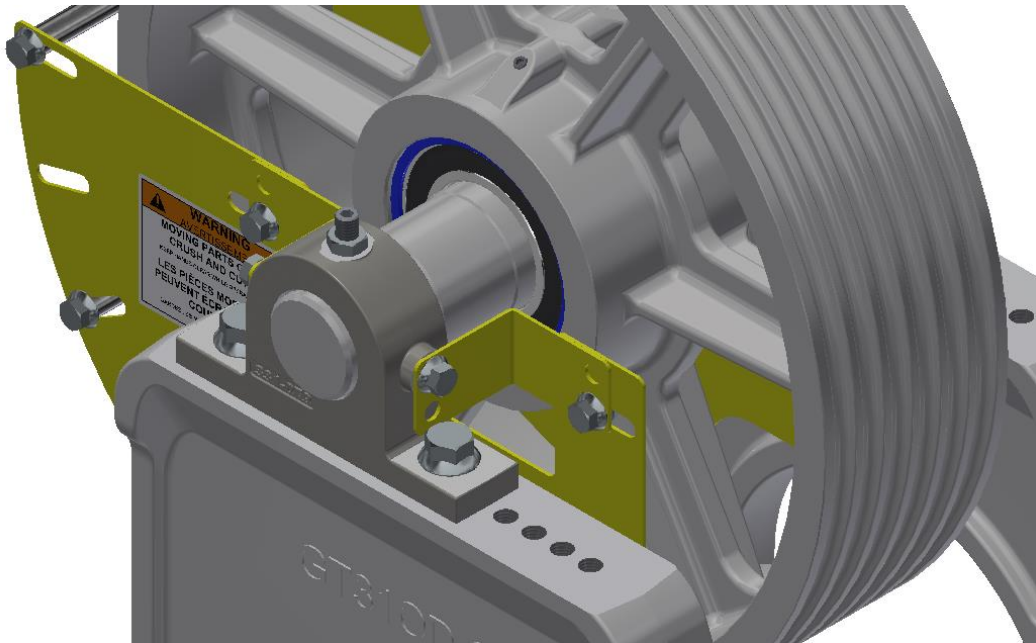

Figure 4-15: Pillow Block Mounting Locations
- Attach the OD rope retainer brackets to the deflector pillow blocks as shown in Figure 4-15 using the provided hardware.